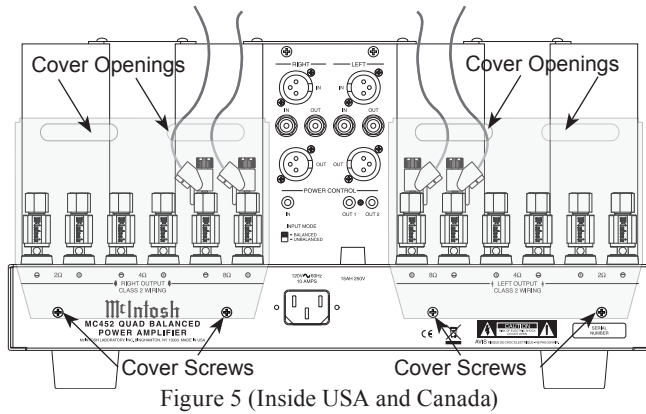

Figure 5 (Inside USA and Canada)
5. Locate the Terminal Connections Covers from the inside of the MC452 shipping carton. Insert the just prepared Loudspeaker hookup cables thru the cover openings, one cover for each channel. Refer to figure 5.
Note: The illustration in figure 5 is connections for 8Ω (ohms) Loudspeakers.
9. Attach the Terminal Connections Covers to the MC452 Rear Panel with the previously removed Screws. Refer to figure 5.